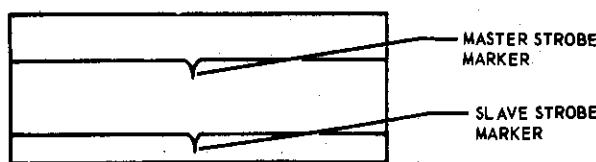

Figure 4-53. Pre-Operational Check Step 11
11. Set FUNCT switch to position 4. The CRT display should appear as shown in figure 4-53.